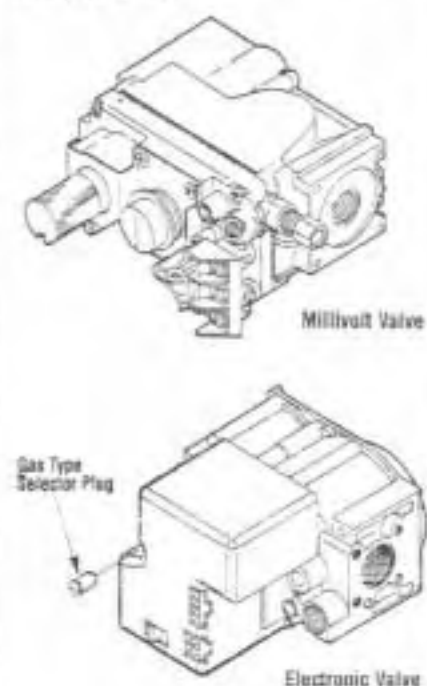
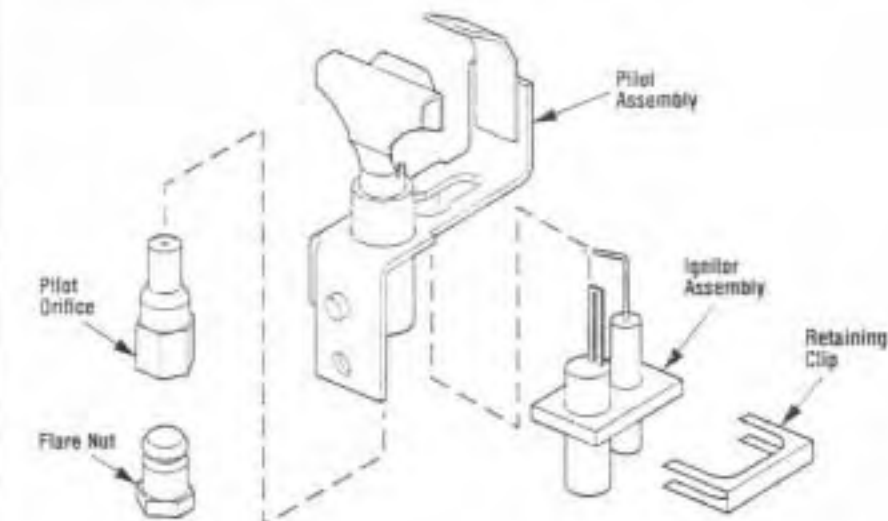

Figure 52
Figure 53
Step 2. Carefully remove the two (2) twigs on top. Then remove the two (2) main logs. Exercise care as not to break the logs.
Step 3. Remove the two (2) screws located at the base of the burner tray. Remove the burner tray with the burner. Use care to prevent damage to the air shutter adjustment rod. Lift the rear of the burner tray up slightly and to the right to disengage the burner tube from the manifold and orifice.
Step 4. Millivolt Appliances - Mark the wires to the gas valve. Then remove and replace the gas valve (Figure 52).
Step 5. Electronic Models - Remove the gas type selector plug (Figure 52) and turn it around to show the appropriate gas type and reinstall the selector plug. Gas type in use should be visible on the selector plug when it is installed. See Figure 53 and replace the pilot orifice as follows: Remove the igniter assembly retainer clip, and carefully remove the igniter assembly.